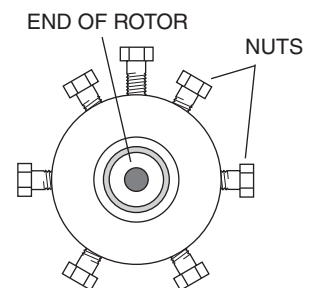

Figure 2:
2. Engage the end of the rotor **(Figure 2)** with a pencil-type magnet, available from Valco or any electronic components supplier.